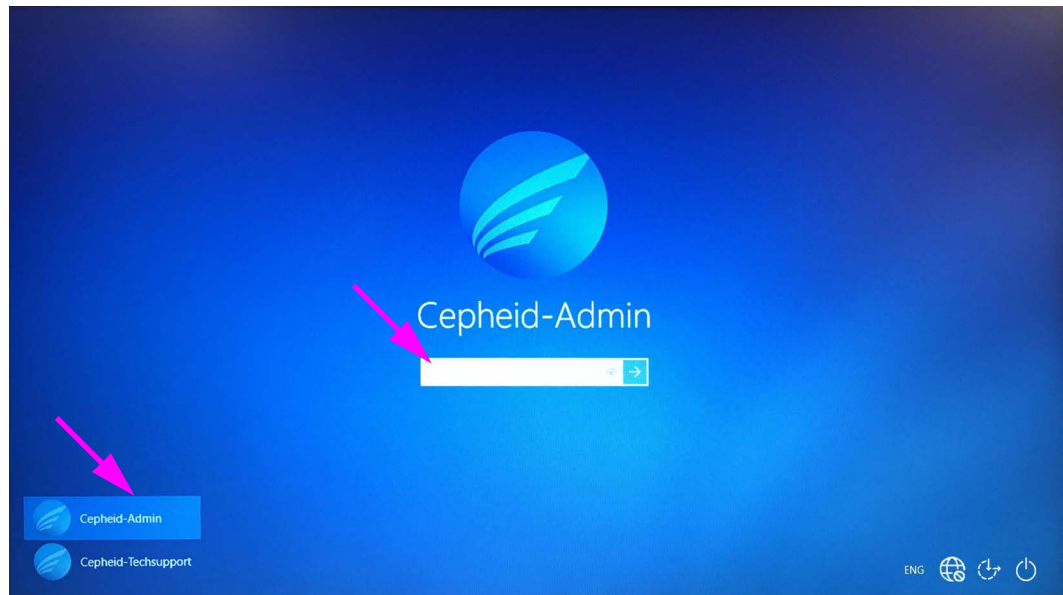

Figure 2-12. Windows 10 Account and Password Screen
- The Windows Lock screen appears. See Figure 2-11. Click anywhere on the screen to display the Windows Account and Password screen. See Figure 2-12.
3. On the Windows Account screen, select the Cepheid user account (see Figure 2-11 and Figure 2-12).
- The Cepheid user account password field appears. See Figure 2-12.
The GeneXpert Dx system computer is configured with two Windows accounts. The **Cepheid-Admin** account is for administrator tasks such as software updates, system configuration and normal operation; and the **Cepheid-Techsupport** account is for use only by Cepheid Technical Support See Figure 2-11 and Figure 2-12.
4. On the Windows Password screen (see Figure 2-21 and Figure 2-12), enter the password. The default password is **cphd** and must be changed upon initial login (as instructed by the software). After the password has been changed by the system administrator, enter the assigned password for future logins.